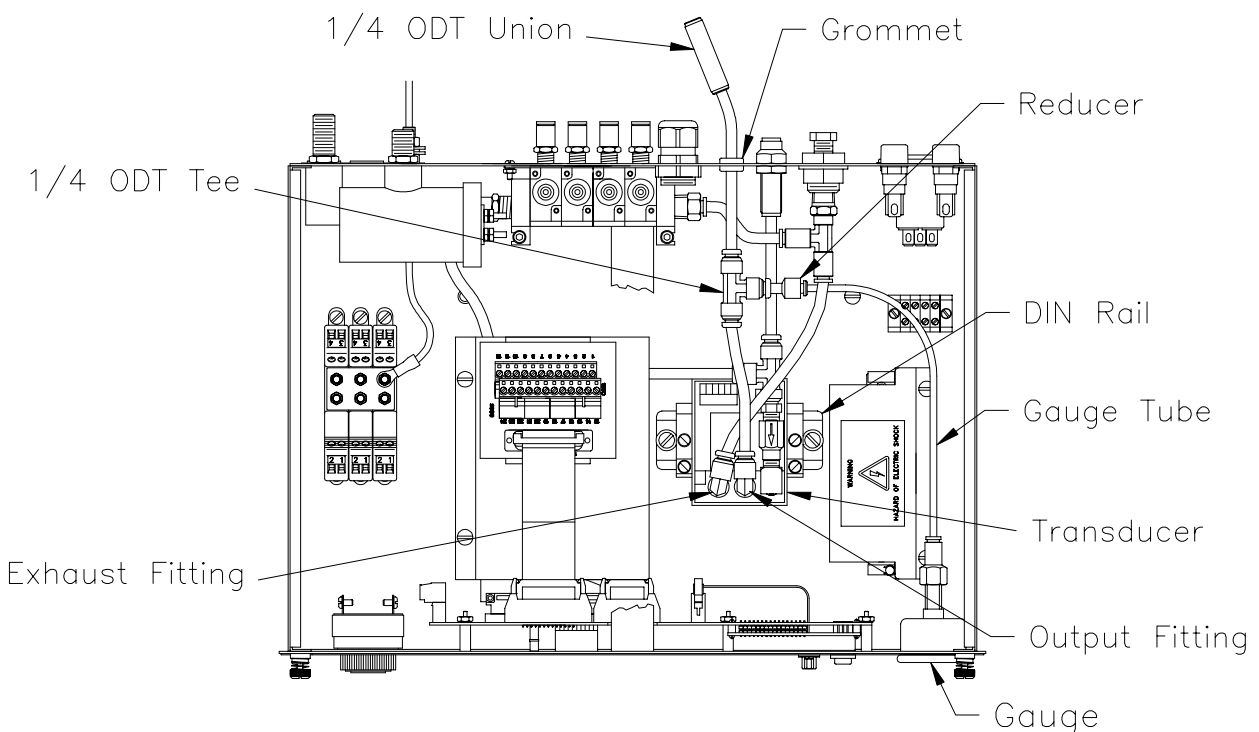

Figure 1: Base System Controller
E-Z FLOW BASE SYSTEM (77357-0xxx & -2xxxx) (See Figure 1)
4. If unit with gauge, replace the 5/32 ODT tee fitting with a 1/4 ODT tee fitting from the kit, using the 1/4 ODT to 5/32 ODT reducer in the leg of the 1/4 ODT tee (see Figure 1). Plug the gauge tube into the reducer.
5. Snap the transducer back onto the DIN rail and reconnect tubing as shown in Figure 1. Cut a piece of 1/4 OD tube from that supplied in the kit and plumb from the transducer output fitting to the 1/4 ODT tee or directly to the bulkhead adapter for units without gauge.
6. For units with gauge, cut another piece of 1/4 OD tube and plumb from the 1/4 ODT tee through the grommet on the rear panel as shown in Figure 1. On the outside of the rear panel, install the 1/4 ODT union on the tube passing through the grommet.